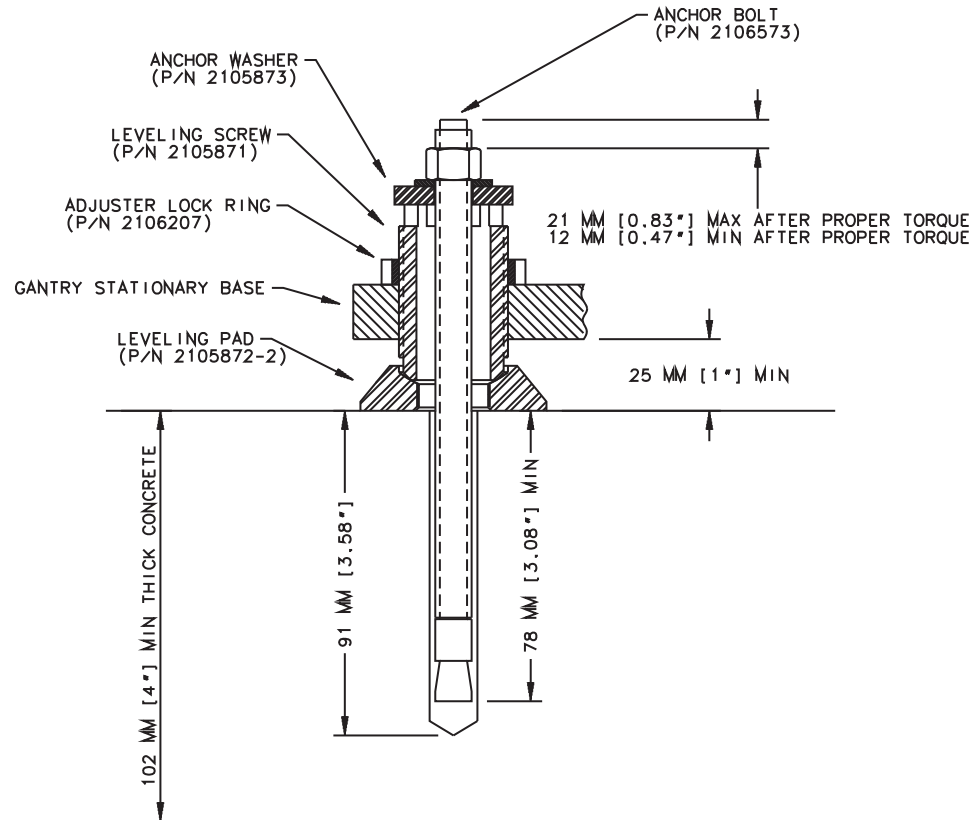

Figure 1-55 Gantry and GT1700V Table Anchor Assembly
- Drill each hole until the mark on the drill bit is even with the top of the drill bushing. All holes must be a minimum of 7.5" (190 mm) deep, as measured from the top of the adjuster to the bottom of the hole. (See Figure 1-55, on page 77) Use an upside-down anchor to check the hole depth.
- 1.) Assemble the anchors before you install them. Refer to Figure 1-55.
- 3.) Adjust all eight (8) anchor bolts until tight.